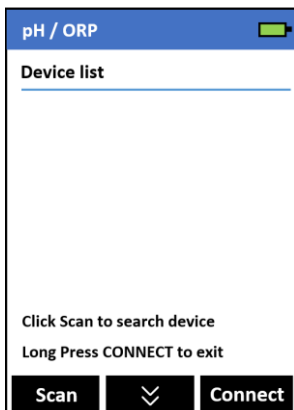

Figure 30
4. Press **Comm** ( **>** ) to launch the **Bluetooth Paring** screen(Figure 30).